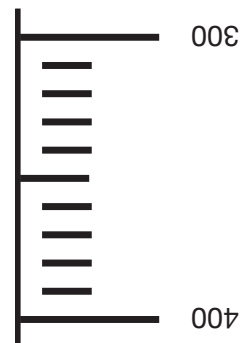

Figure 4.
- g. The volume computed from $PV = nRT$ above is in liters (L). Convert this volume into milliliters (mL). *Hint:* This just involves moving the decimal point. (Now, back to the procedure!)
14. Take the clear plastic grading scale and tape it in position on the graduated cylinder so that the center arrow is aligned with the volume (mL) of gas you calculated above (Remember, the graduate is upside-down). For example if you calculated the volume to be 342 mL, the grading scale should be positioned as shown in Figure 4. Make sure this is done accurately; your grade depends on it. After the reaction is finished, if the volume ends up in the "10" region, you will score a perfect 10 out of 10. If it ends up in one of the "8" regions, your score will be 8 out of 10. If it appears to be on the line between "8" and "10," your score will be 9 out of 10. The teacher makes the call on this!